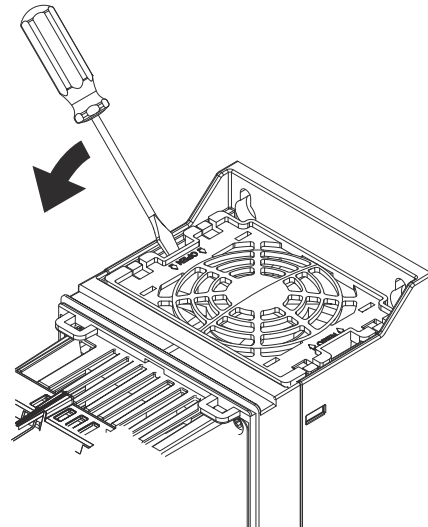

Fig. 62 — Remove Top Cover/Fan Assembly on ACH580 VFD
3. Remove the top fan cover (see Fig. 62).